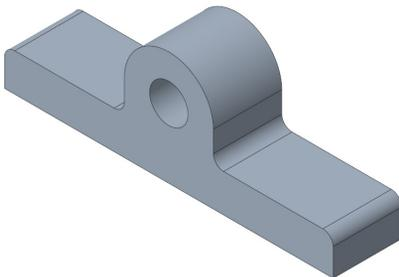
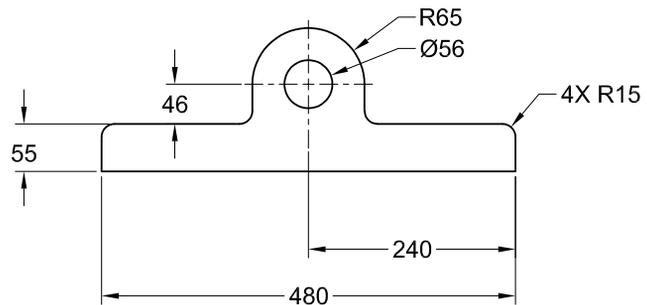

Figure 3-43 Model for Tutorial 3
Figure 3-44 Sketch of the model
In this tutorial, you will draw the sketch of the model shown in Figure 3-43. The sketch is shown in Figure 3-44. **(Expected time: 30 min)**
4. Modify all dimensions. Refer to Figure 3-43 for dimension values.